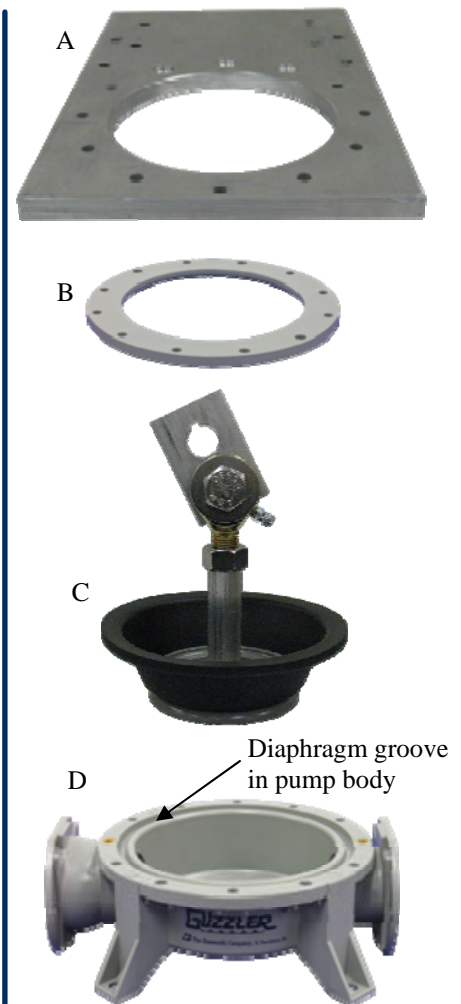

Figure 2
2. Remove the four (4) Motor Mounting Bracket Bolts, holding bracket to Aluminum Motor Mounting Plate.
3. Remove the 12 Pump Body Mounting Screws attaching Pump Body and Intermediate Ring to Aluminum Motor Mounting Plate. Lift diaphragm out of groove in pump body. (See Figure 2)